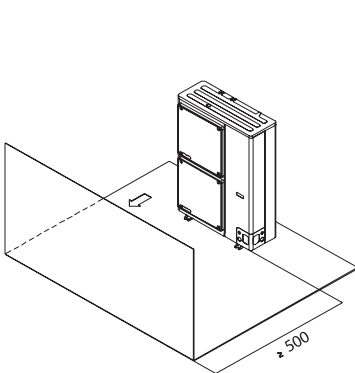

Figure 7
- a. Single unit installation (see Figure 7)